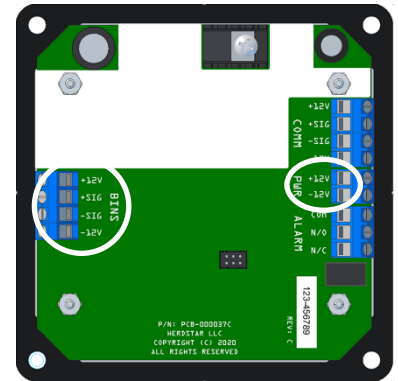

Figure 10: Insert wires in appropriate terminal blocks.
31. Insert the wires into the terminal block where RED is +12V, GREEN is +SIG, WHITE is -SIG and BLACK is -12V. (**Figure 10**)